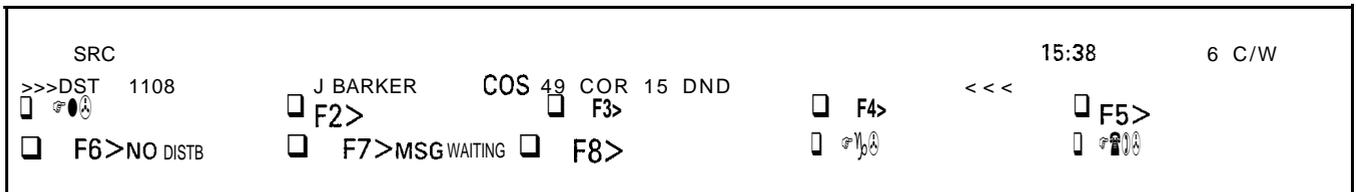

Figure 3-23 Do Not Disturb (DND)
3.29 When the Attendant Console is connected to an extension the displayed prompts are as shown in Figure 3-23. To set up Do Not Disturb (DND) the Attendant must press softkey F6 (NO DISTB). Line 2 of the display will indicate that the feature is active with the DND prompt after the COS and COR numbers. To cancel Do Not Disturb the Attendant simply presses softkey F6 again. The DND status flag on line 2 will disappear.